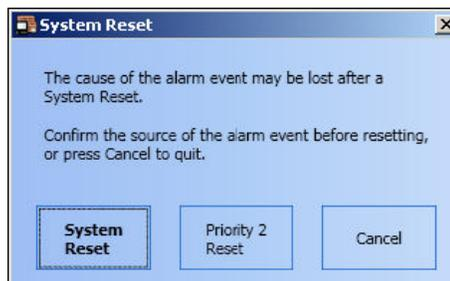

Figure 6-5 System Reset Confirmation Dialog Box
2. A **System Reset** confirmation dialog box appears as shown in Figure 6-5.